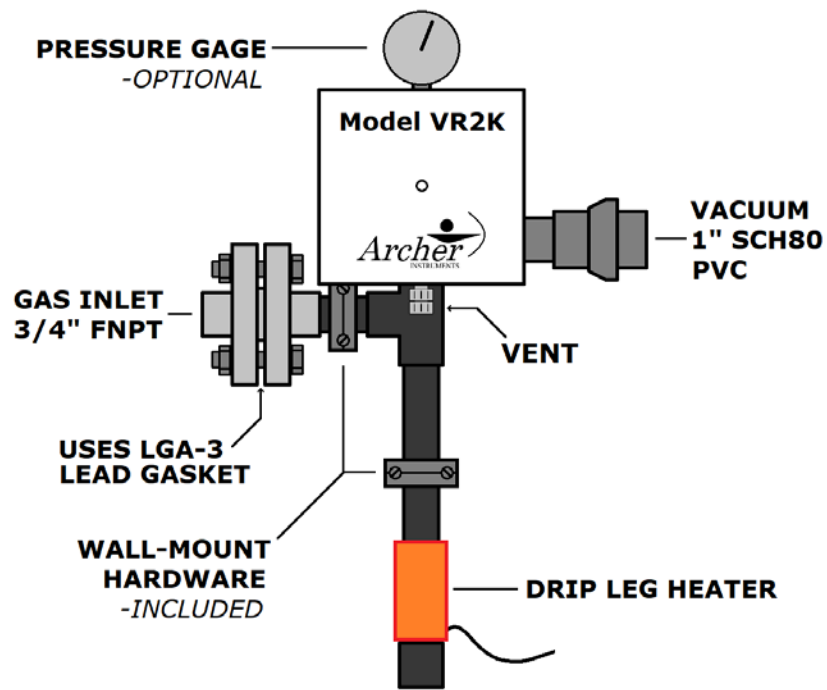

Figure 1
- The VR2K inlet assembly is connected to the back of the vacuum regulator by means of a lead gasket seal (lead gasket part# LGA-3) and four (4) socket head cap screws. Prior to use and during any periods of significant change in ambient temperature, these screws should be checked to make sure they are tight. 20 lbs of torque is recommended. The LGA-3 lead gasket should be replaced once each year, but only after the pressure manifold has been properly evacuated.
- 1) Wall-mounting: After selecting the best location, mount the VR2K to the wall using the wall-mounting hardware provided, connecting onto the VR2K as shown in Figure 1. The VR2K must be installed vertically (as shown) with the drip leg down.